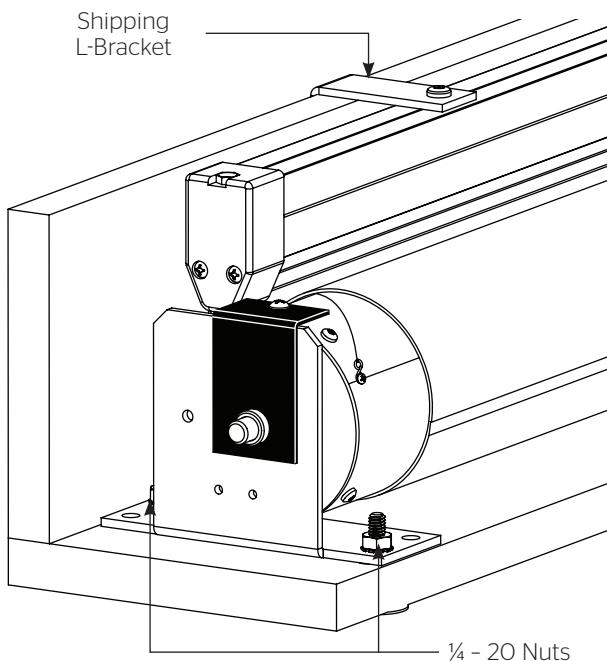

Figure 16
1. Remove two  $\frac{1}{4}$  - 20 nuts from pin end and motor end mounting brackets on the ViewShare screen and roller assembly shipping board (Figure 16).
2. Remove screws from both L-brackets that hold the slat in place and carefully allow the slat to rest behind the ViewShare screen and roller assembly (Figure 16).